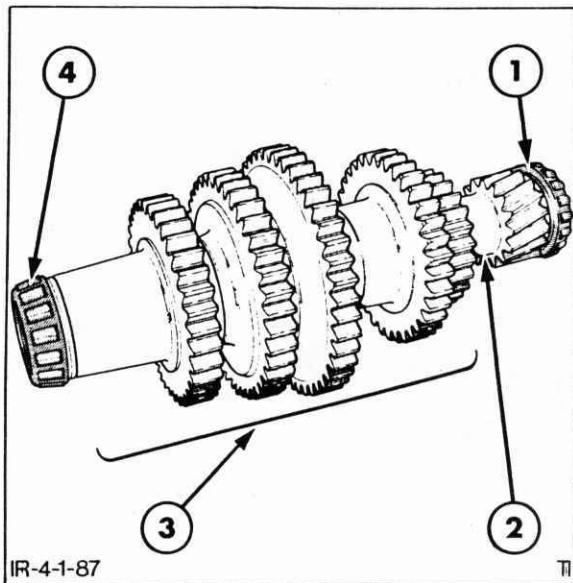
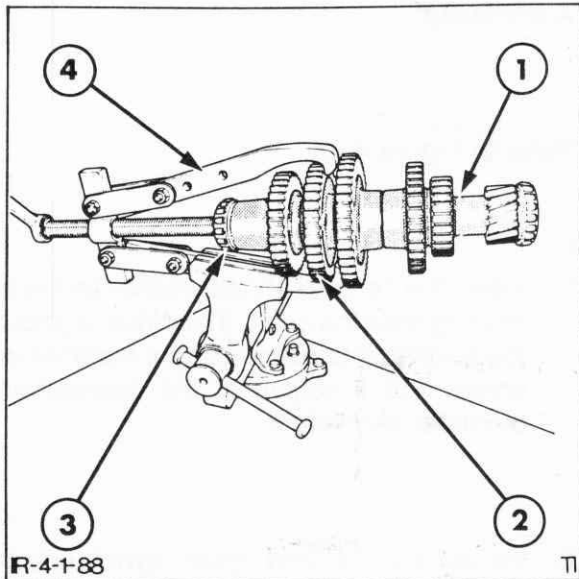

Figure 4-86
Figure 4-87
1. Remove the countershaft front bearing, thrust washer and gears, Figure 4-86, using a puller, Tool #1003 or FNH09516 with shaft protector Tool #625A or FNH09212 as shown in Figure 4-87.